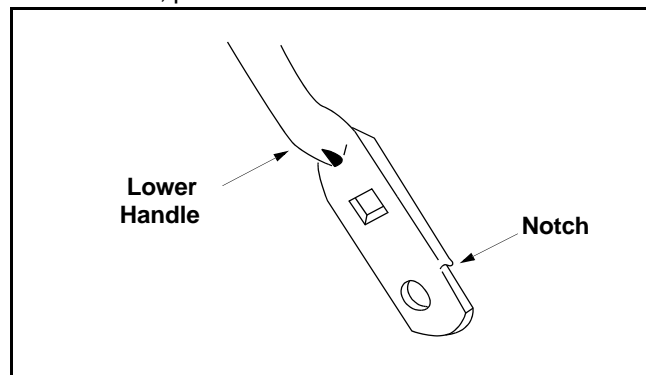

Figure 9
- Turn the lower handle around so the notches on the bottom of the lower handle are facing forward as shown in Figure 9. Reassemble, placing the bottom holes in the handle over the weld pins in the handle mounting bracket.